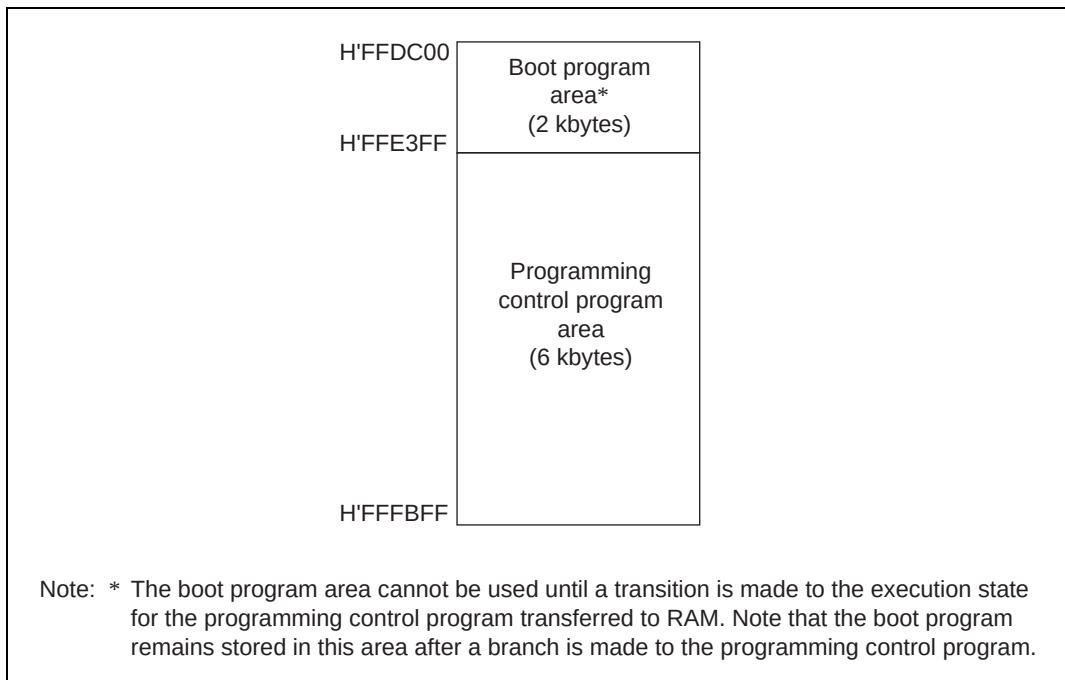

**Figure 17.43 RAM Areas in Boot Mode**
**On-Chip RAM Area Divisions in Boot Mode:** In boot mode, the 2-kbyte area from H'FFDC00 to H'FFE3FF is reserved for use by the boot program, as shown in figure 17.43. The area to which the programming control program is transferred is H'FFE400 to H'FFFBFF. The boot program area can be used when the programming control program transferred into RAM enters the execution state. A stack area should be set up as required.